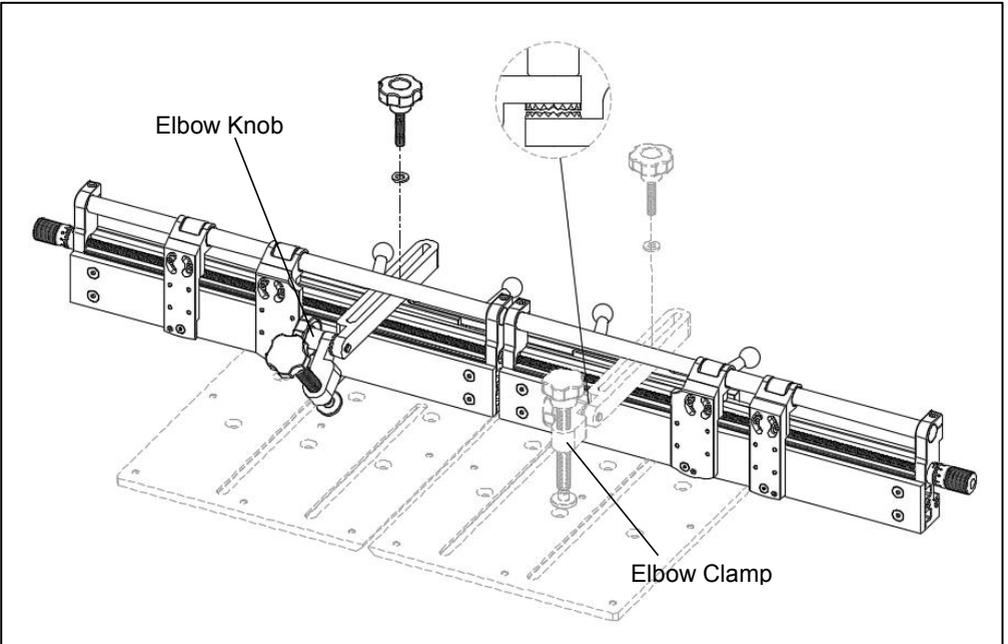

Fig. 16
- As shown in Fig. 16, install the Elbow Clamp into the mounting hole reserved on the fence base. The elbow clamp can be mounted on either side of the blade.